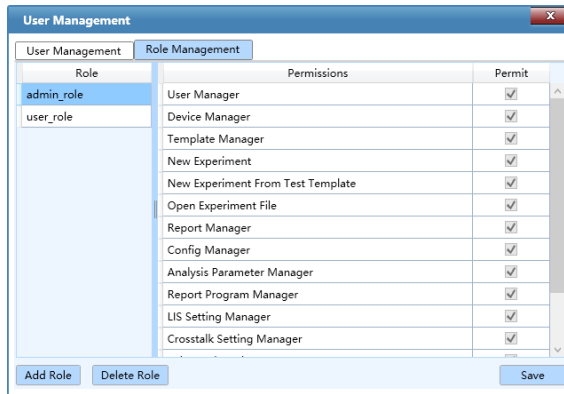

Figure D-3.10a. User Interface - General User Permissions Tab
- ▶ **General User Permissions** tab: as shown in figure D-3.10a.